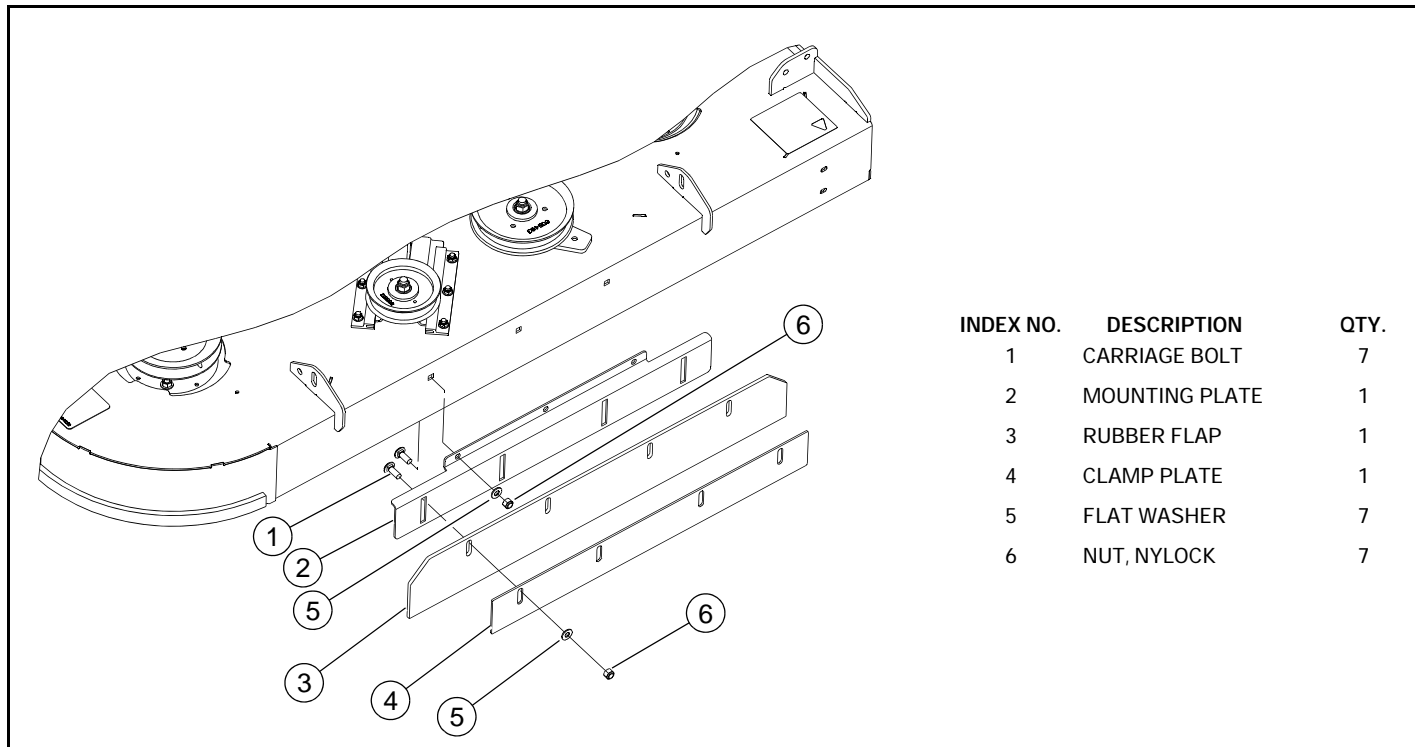

FIG. 3
4. Attach the striper kit to the deck as shown in Fig. 3.
2. Attach the striper kit to the deck as shown in Fig. 3.